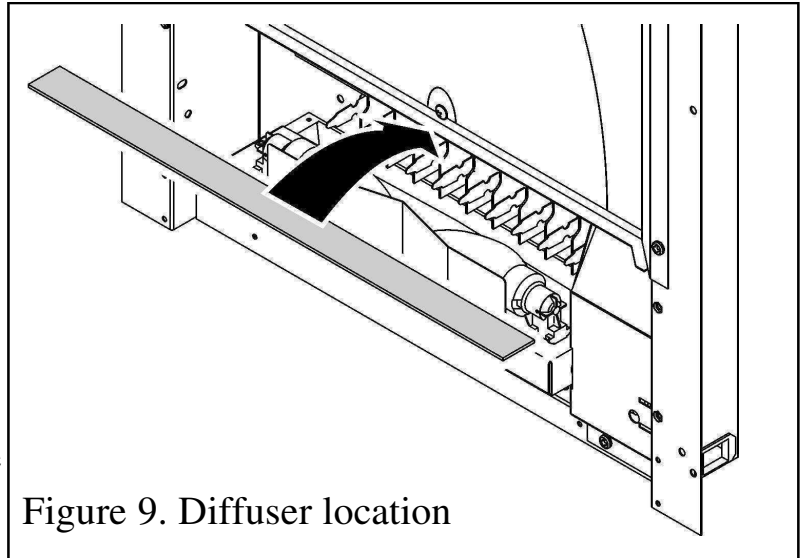

Figure 9. Diffuser location
1. There is a light diffuser supplied with the heater (See figure 3). Place this on to the metal flange below the plastic screen (See figure 9).